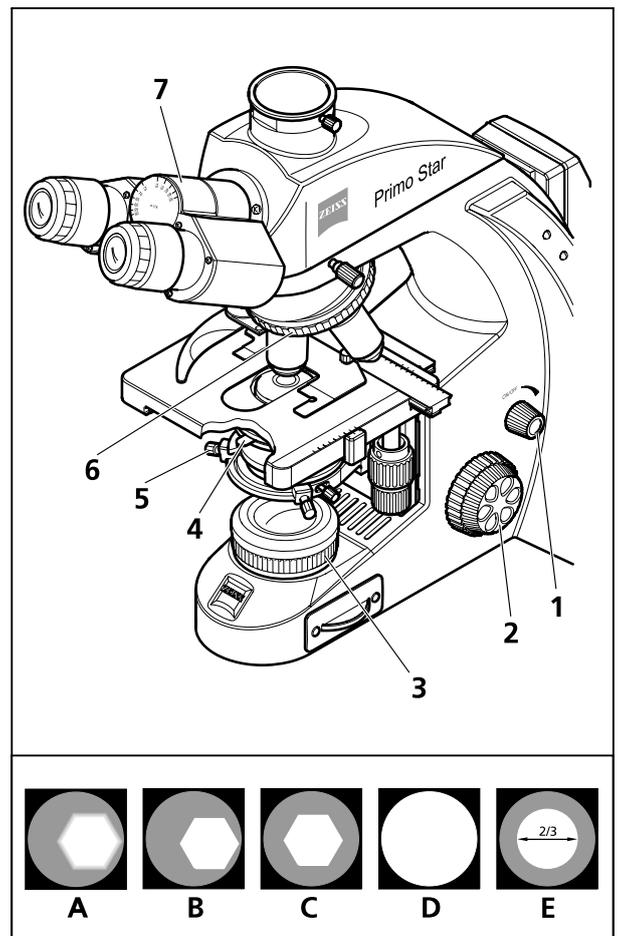

Fig. 8 Adjusting transmitted-light brightfield
- Turn rotary knob (Fig. 8/1) on microscope stand to adjust the illumination intensity.
- Turning at the knurled ring (Fig. 8/6) of the nosepiece, swing the 10x objective into the light path.
- On the binocular tube (Fig. 8/7), first look through one eyepiece and turn the focusing drive (Fig. 8/2) to focus on the specimen.
- Close the luminous-field diaphragm (Fig. 8/3) until it becomes visible (even if not in focus) in the field of view (Fig. 8/A).
- Turn the knurled knob for vertical adjustment of the condenser (Fig. 4/15) until the edge of the luminous-field diaphragm appears sufficiently sharp (Fig. 8/B).
- Center the image of the luminous-field diaphragm using both centering screws (Fig. 8/5) of the condenser (Fig. 8/C). Then, open the diaphragm until it just disappears from the field of view (Fig. 8/D).
- To adjust the aperture diaphragm (contrast), remove one eyepiece from the tube and look through the tube with your naked eye. Swing lever (Fig. 8/4) to adjust the aperture diaphragm to approximately 2/3 ... 4/5 of the diameter of the exit pupil of the objective (Fig. 8/E). In most applications, this aperture diaphragm setting provides optimum contrast at almost ideal resolution, and is therefore the best compromise for the human eye.